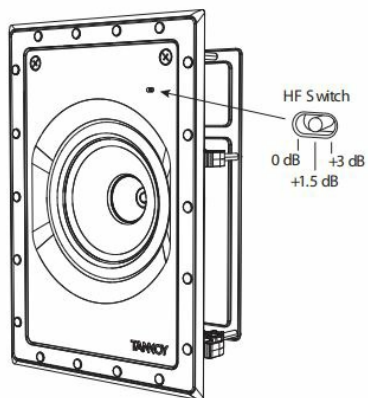

Fig. 14. HF Switch Positions
2. The HF switch has three positions, with 0 dB being flat. Adjust as necessary to suit the room position and acoustic conditions (Fig. 14). (Not available on QCI 6DC IW).